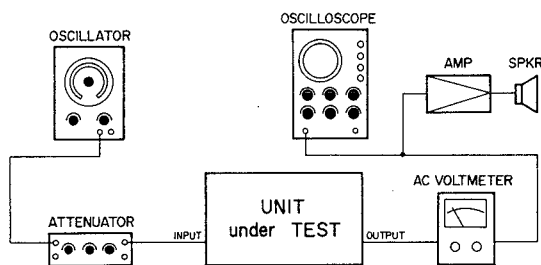

Fig. 7-32. Level or Frequency Response Measurement Set-up
1. Connect the test equipment to INPUT 1 and OUTPUT 1, as shown in Fig. 7-32, and connect a 50 ohm load.
1. Connect an AF oscillator, oscilloscope, AF level meter to the tape deck as shown in Fig. 7-32.
1. Connect an AF oscillator, oscilloscope, AF level meter and a 50 k ohm load to the tape deck as shown in Fig. 7-32.
1. Connect the test equipment to the tape deck as shown in Fig. 7-32 and load a blank test tape onto the tape deck.
1. Connect test equipment as shown in Fig. 7-32.